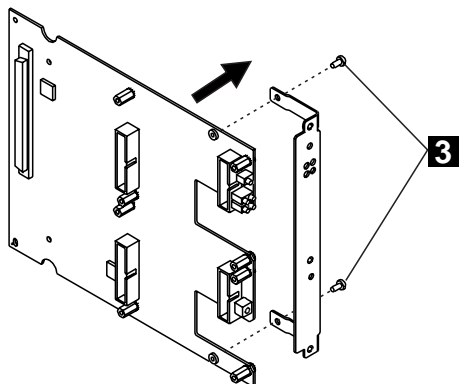

Figure 14. Removing the Dummy Faceplate Bracket
- 3 Remove the dummy faceplate bracket from the motherboard (3 in Figure 14), retaining the screws for the new bracket. Save the dummy bracket in a safe place for future reuse.